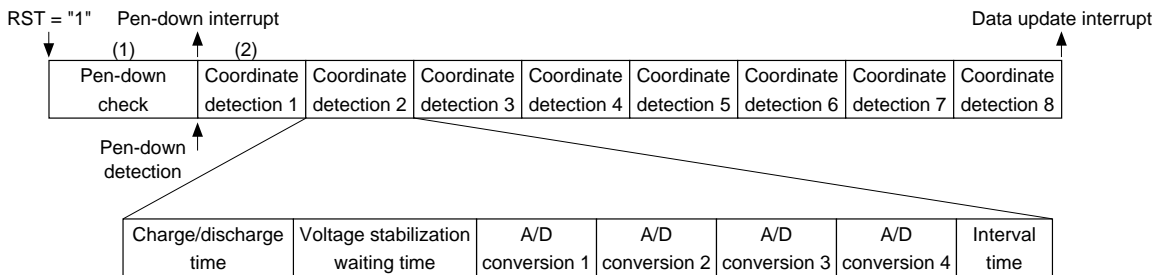

Fig. 5.17.3.4 Coordinate detection operation
When "1" is written to the RST register, the touch panel controller starts operating for coordinate detection and continues a process as shown in Figure 5.17.3.4 until "0" is written to the RST register.
Figure 5.17.3.4 shows the operation when the number of conversions is set to  $16 \times 1$ . When a pen-up is detected in the coordinate conversion period, the following cycle starts from (1) after finishing the current cycle. When no pen-up is detected, the following cycle starts from (2). If the detected data is regarded as noise, the data register is not updated.